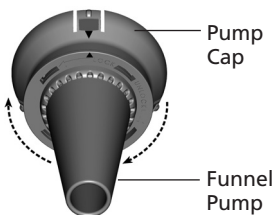

Figure 12a
4. Remove the Pump Cap from the Funnel Pump by holding the Pump Cap securely in one hand while twisting the Funnel Pump in a clockwise direction. This will unlock the two components. See Figures 12a and 12b.